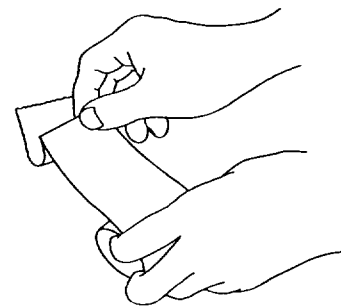

Figure 8-3
- (3) Pull out the paper one revolution of the roll and fold it (see Figure 8-3).